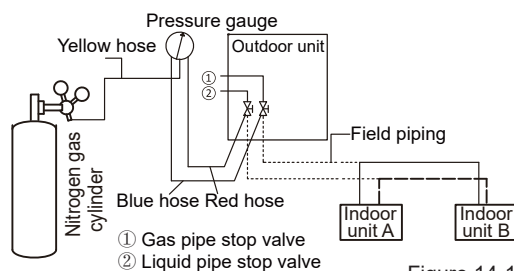

Figure 14-17
4. Use blind plugs to block all liquid (gas) side openings, except for the opening at the indoor unit which is furthest from the outdoor units ("Indoor unit A" in Fig.14-17).